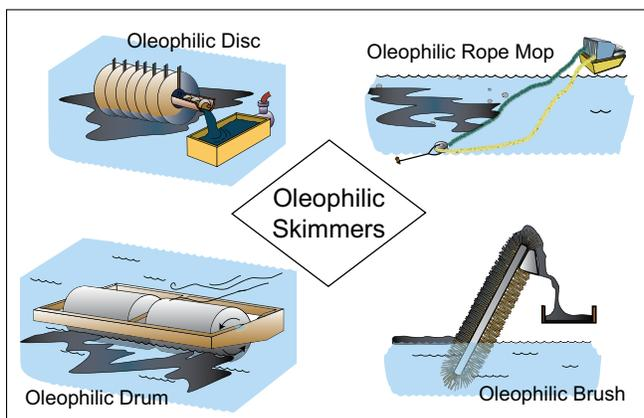

Figure OR-2. Oil recovery using oleophilic skimmers.
- Oleophilic skimmers may also be used in situations with adequate amounts of pooled oil or if the oil has pooled on water (Figure OR-2). These skimmers pick up oil that adheres to a collection surface, leaving most of the water and debris behind. The oil is then scraped from the collection surface and pumped to a storage device. Oleophilic skimmers can be used in any type of oil and are most effective for on-land recovery. Some